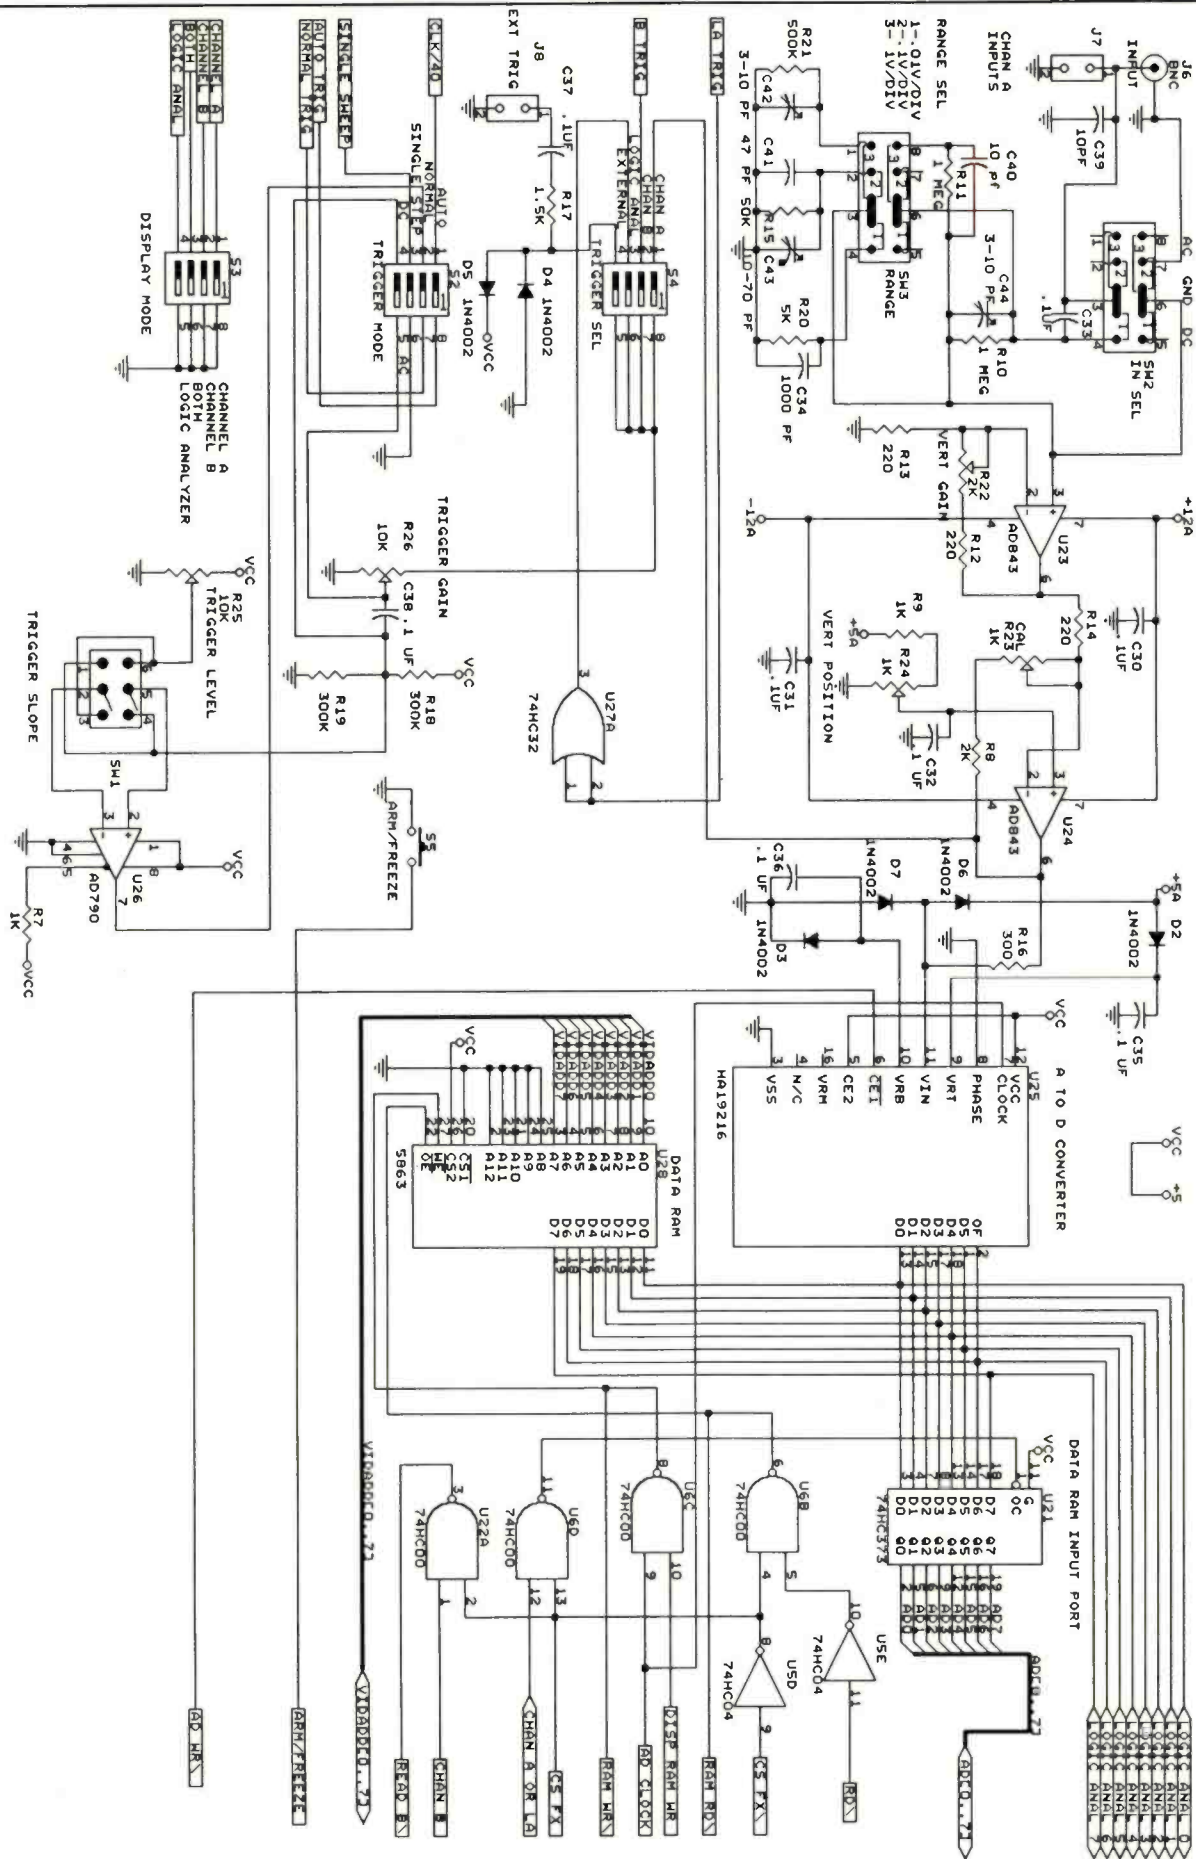
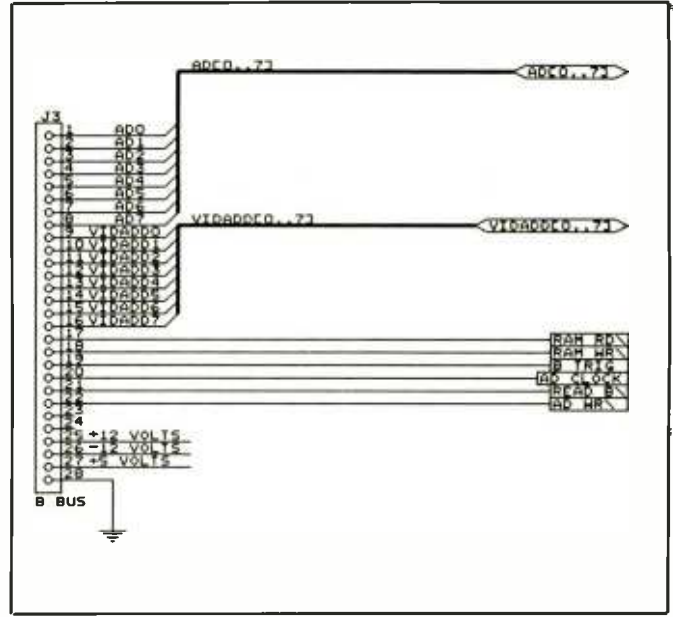

Fig. 3. Input, trigger, A/D converter and RAM circuitry details.
Fig. 5. Circuitry is provided for connecting into the system an optional Channel B circuit via its a 28-pin bus connector.
- **Data RAM Input Ports:** The last ports to be reviewed are those that read data collected by the data RAM. Referring to Fig.3, note that OUTPUT CONTROL pin 1 of *U21* goes low when inputs to *U6D* are high. The 8155 supplies one of the signals to CHANA or LA, which goes high when the unit is displaying either Channel A or logic-analyzer signals. The other input to *U6D* is I/O select line CZ FX, which is generated by the I/O decoder discussed above.
connect *U21* to the data bus. If the scope is displaying Channel B, the 8155 produces a high level at pin 1 of *U22A*. Pin 2 receives the CS FX signal. The resultant READ B \ signal is sent to the Channel B bus (see Fig. 5). Channel B is not shown at this time, but consists of the same components and signals that are in Fig. 3, except for the trigger and some of the I/O logic already used for Channel A that is common for both channels. The bus permits the Channel-B board to be plugged into the main board. Inputs and controls are located just behind Channel A controls.
- **Analog Inputs:** Now look at the analog input circuit area in Fig. 3. The inputs from either *J6* or *J7* are coupled to the input of the first AD843 operational amplifier through *SW2*. This switch configures operation of the input circuit for either ac or dc coupling. A center position on this switch grounds the input to provide a convenient 0 reference point. INPUT ATTENUATOR *SW3* permits selection of a divide-by-2, -20 or -200. Capacitors *C42*, *C43* and *C44* are small trimmers that you adjust to provide a
The A/D converter (see U25 in Fig. 3) is a high-speed flash-type unit that produces a six-bit digital output. To perform a conversion, the input circuit uses 64 comparators. It works as follows.